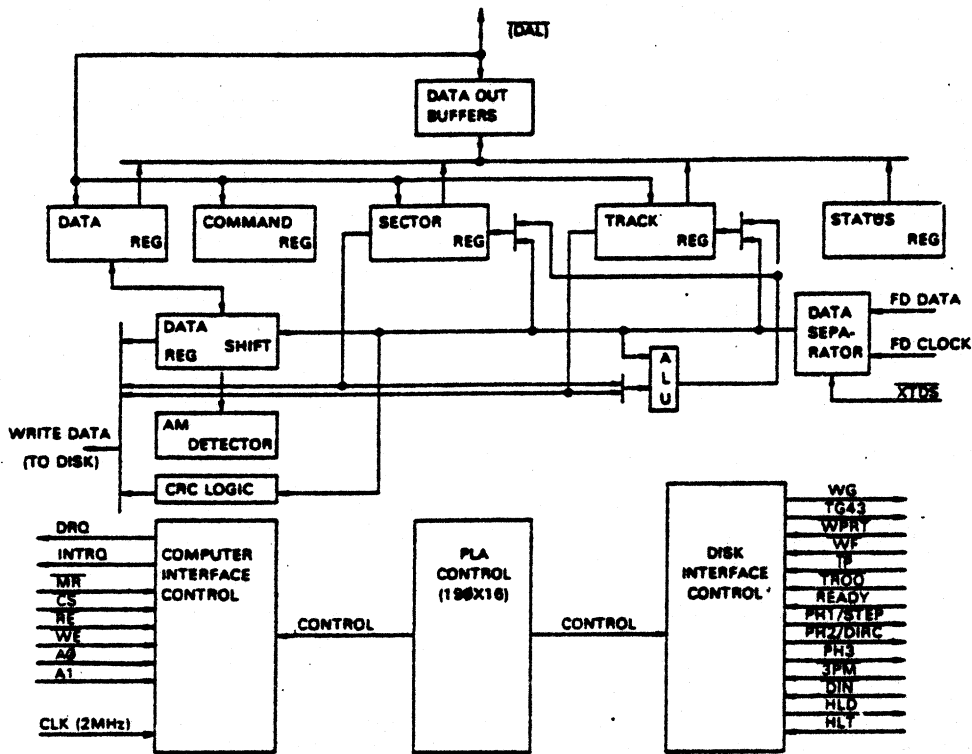

FIGURE 1-1
The FD1771 is a MOS/LSI device that performs the function of interfacing a processor to a flexible (Floppy) diskette drive. This single chip replaces nearly 80% of the required disk drive interface electronics. (See figure 1-1). It provides the data accessing controls and the bidirectional transfer of information between the processor's memory and the magnetically stored data on the diskette. The diskette data is stored in a data entry format compatible with the IBM 3740 specification (other formats may be used providing more data storage). In this format all information is recorded on tracks (radial paths) in sectors (arc sections) defined by a programmed header as shown below:
1.1 FD1771 -- Flexible Drive Interface (Refer to Figure 1-1 FD1771 Block Diagram)
1.2 FD1771 — Processor Interface (See figure 1-1)